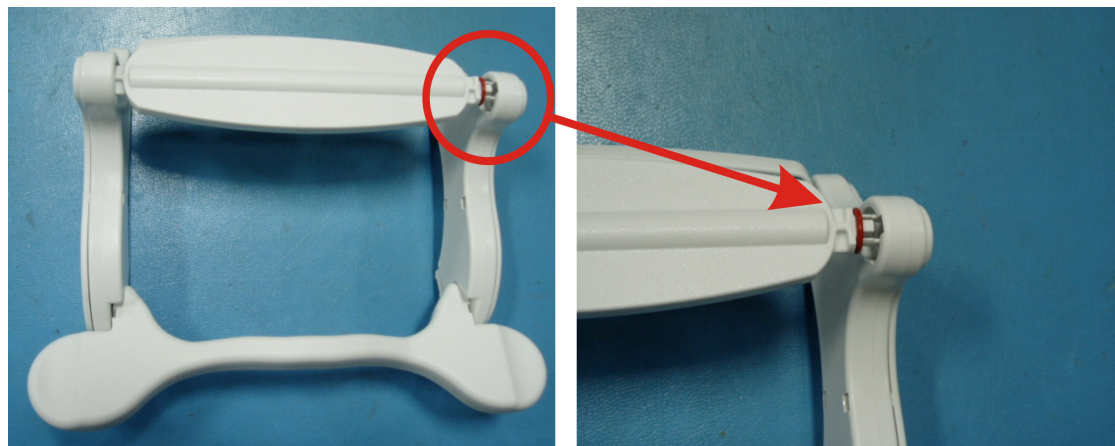
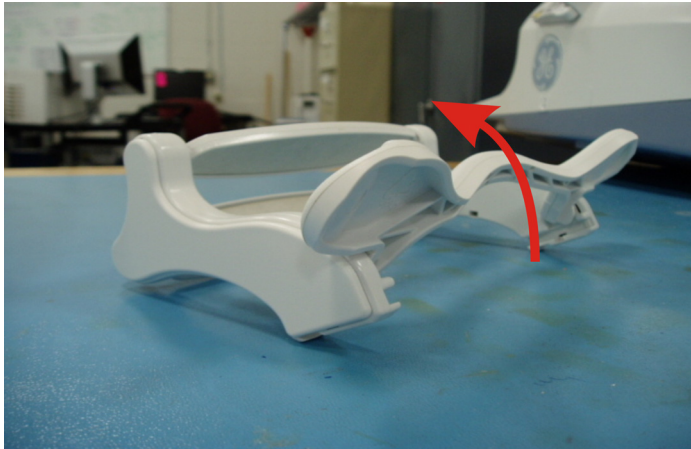

Figure 3-1 Example of the top mirror pulled out from the socket
Figure 3-9 Locking bar in the up position
NOTE: If the mirror assembly has come apart or the snap features on the top rails are broken, contact your GE service representative for replacement. A top mirror that gets pulled out of a socket is an example of a failure that may occur. See figure 3-1 for an example. If this occurs, please contact your GE service representative for replacement or repair.
1. If the mirror has come off of the anterior unit and the top rails (shown in figure 3-1) are still attached to the mirror, push the locking bar on the mirror into the up position (shown in figure 3-9). This will release the top rails from the mirror so that the mirror can be re-installed onto the anterior unit as described in the following steps.
6. Push the locking bar of the mirror into the up position. See figure 3-9.